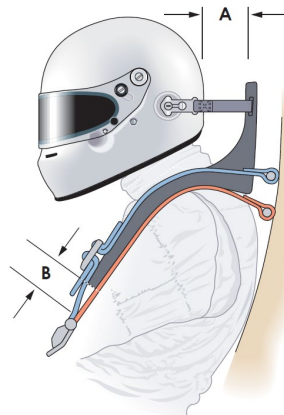

Figure 11 Minimum distance between HANS-yokes and double-shoulder belt merge point
When using double shoulder belts, there MUST be a minimum distance (B) between the lower edge of the HANS-yokes and the merging of the two belts where the HANS-belt is sewn to the body-belt (see Figure 11).